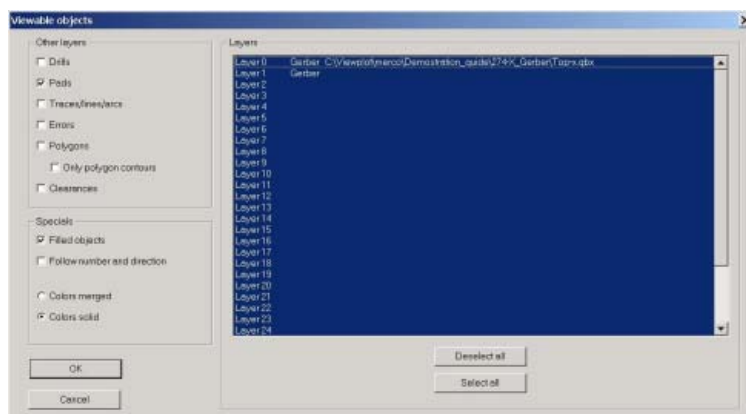

Figure 20: View Pads only
3. Switch the active layer back to **L0** by pressing the Space bar. To select the Pad objects only, set the viewable object to Pads only {Ctrl A} (See Figure 20)